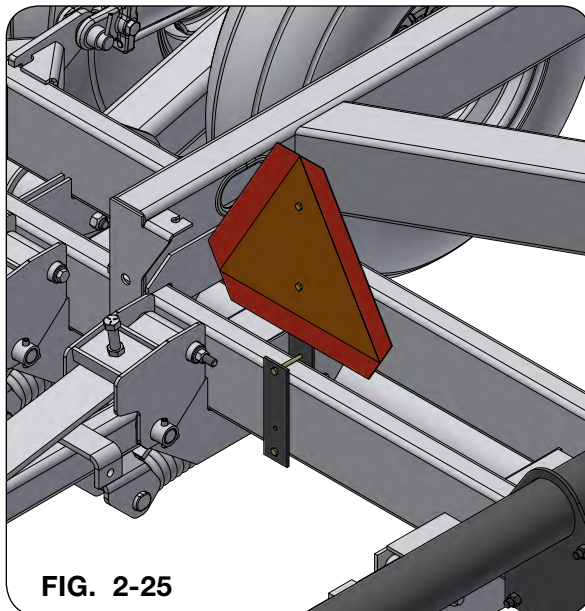

FIG. 2-25
2. Attach the SMV emblem (9829), to the plate (88259B) with two 1/4"-20UNC x 3/4" cap-screws (9390-003) and 1/4"-20UNC locknuts (9936) (FIG. 2-25). Secure the SMV to the main frame assembly with clamp plate (64157B), two 1/4"-20UNC x 3" cap-screws (9390-013) and 1/4"-20UNC locknuts (9936). SMV should be left of center on main frame.